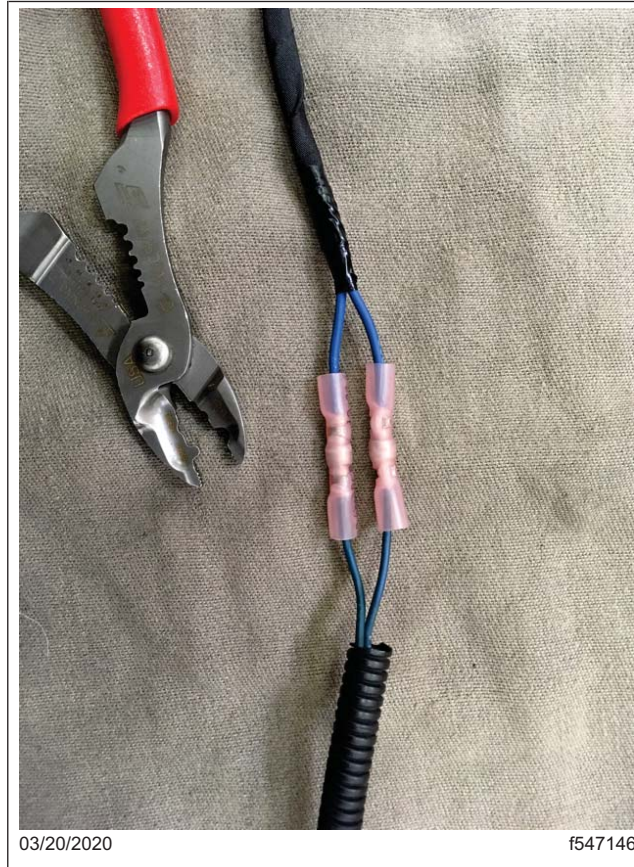

Fig. 3, STA-DRY Butt Connectors, Crimped
5. Connect the new jumper harness (A66-19642-000) using two STA-DRY butt connectors (PHM 1 1863). See Fig. 3.